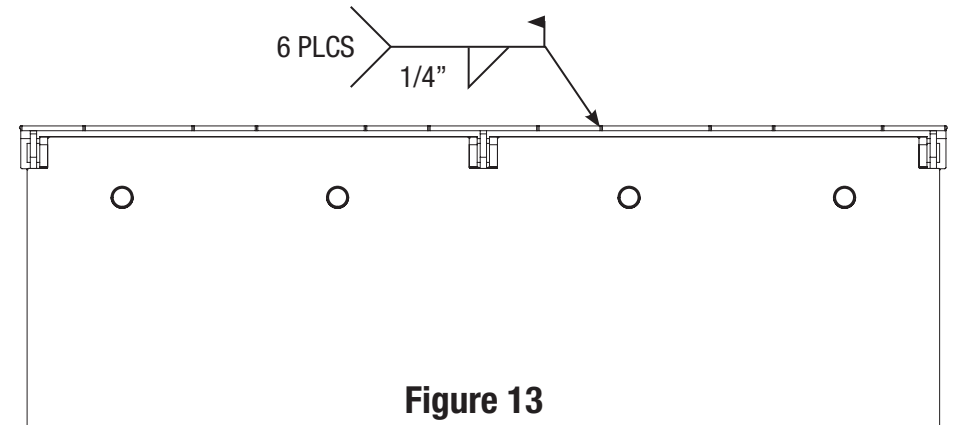
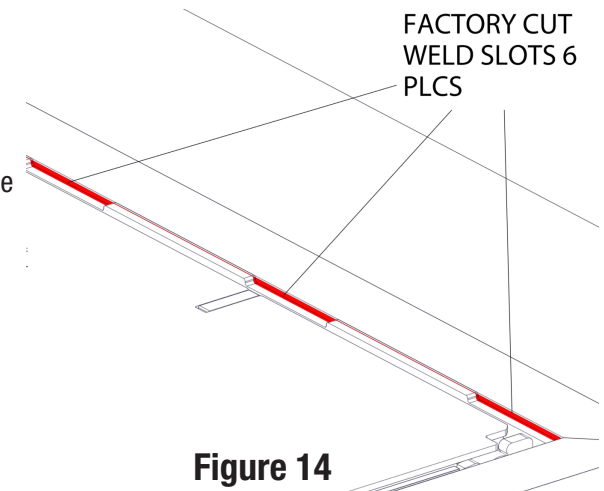

Figure 13
Figure 14
2. Weld leveler to the rear curb angle using the factory cut welding slots, as shown in **Figure 13** and **Figure 14**.